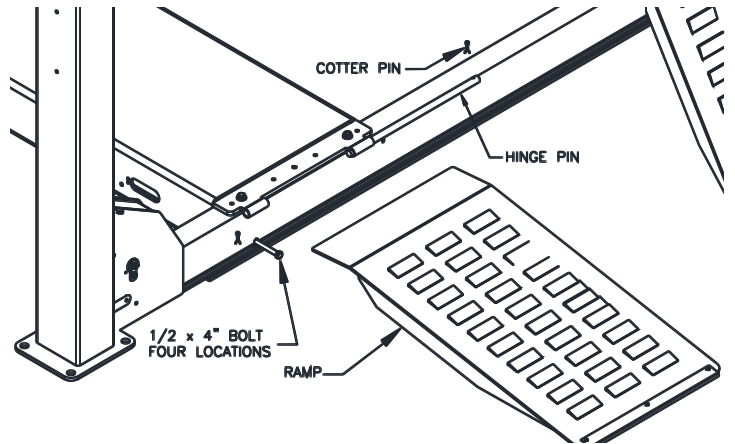

Fig 30 – Crossbeam Bolts and Ramp Install
85) Install the four 1/2-13 x 4" bolts through front and rear crossbeam and into the runways. Torque to 60-80 foot pounds. See **Fig 30**.
86) Assemble each Ramp using the hinge pins and cotter pins. See **Fig 30**.